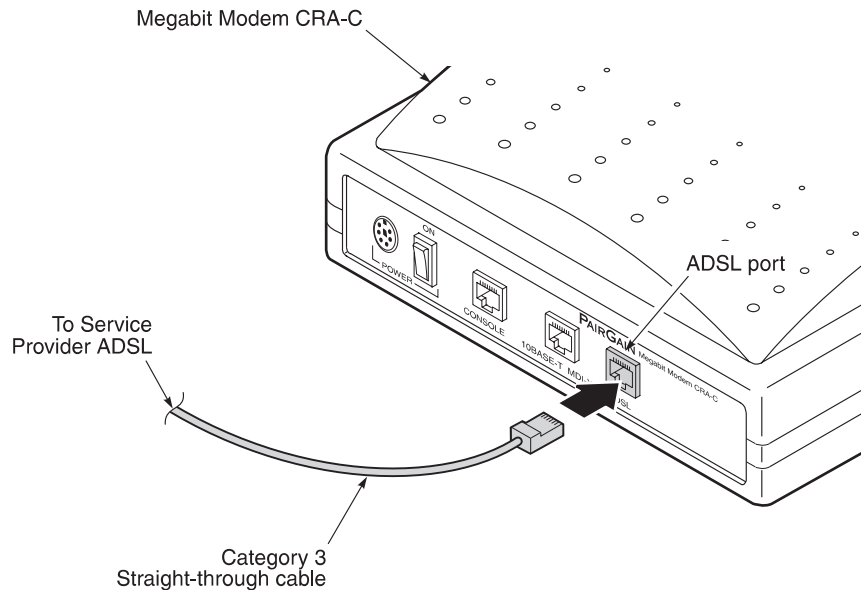

Figure 4. Connecting to the ADSL Line
- 1 Plug the RJ-45 connector of the ADSL cable (gray) into the ADSL port on the Megabit Modem CRA-C rear panel (Figure 4).